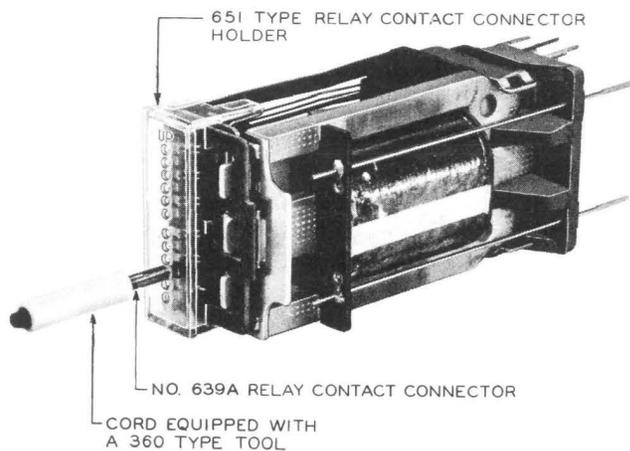

Fig. 14 — Connecting to Fixed Contact of the AF-, AG-, and AJ-type Relays (Wire Spring)
3.03 Connections to Fixed Contacts of AF-, AG-, and AJ-type Relays (Wire Spring) From Apparatus Side of Frame (Front of Frame) Fig. 14